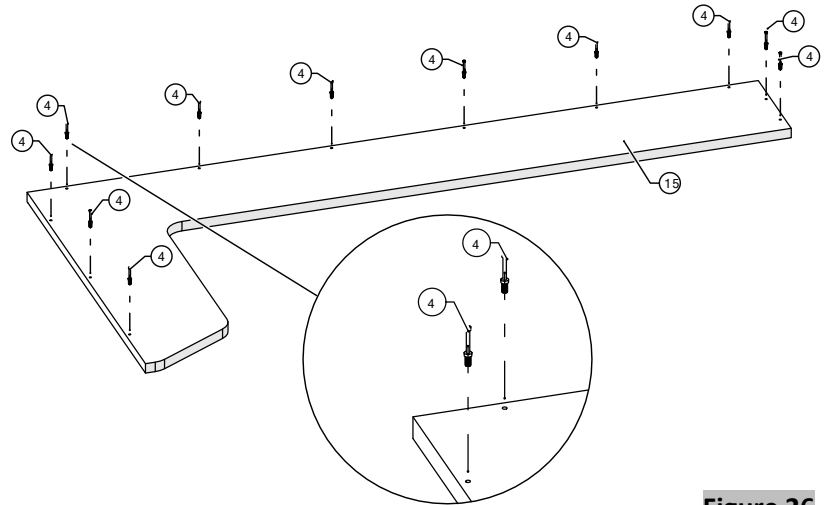

Figure 26
- 31.** Screw in combi dowels into the pre-drilled 5 mm holes of the countertop (Figure 26).